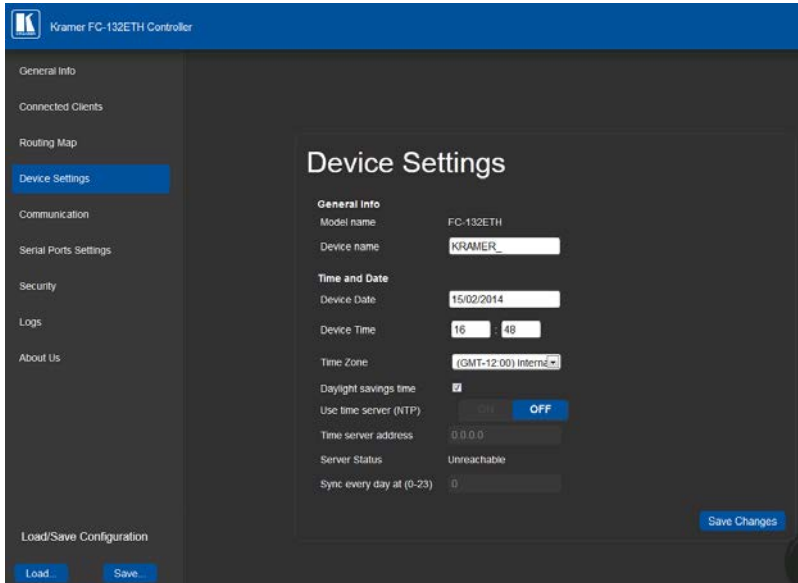

Figure 13: Device Settings Page
1. Browse to the Device Settings page by clicking Device Settings. The Device Settings page is displayed as shown in Figure 13.